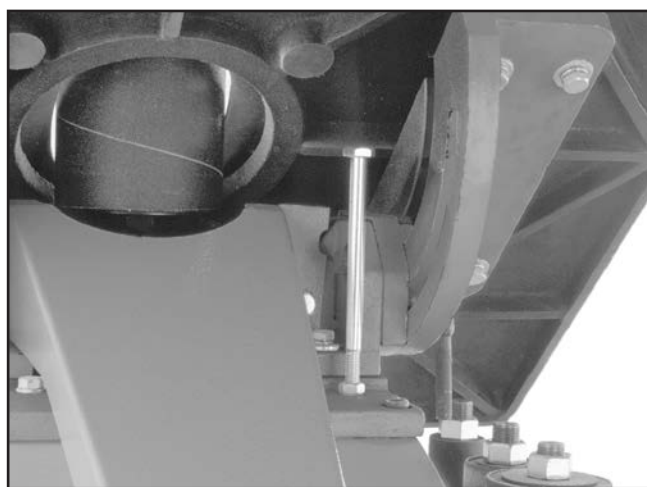

Figure 12. Table stop bolt (table tilted for clarity).
8. Move the square to various points around the table to ensure the table and spindle are square on all sides. Adjust the stop bolt as necessary until the table rests on the stop bolt and is square with the spindle (see **Figure 12**).
11. Re-tighten the jam nut to secure the table stop bolt (see **Figure 12**).